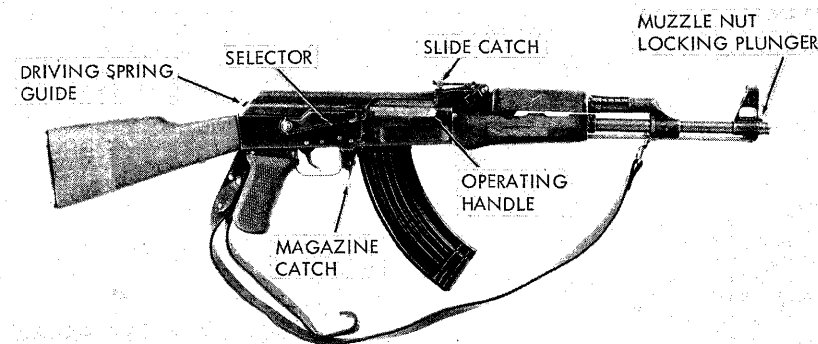

Figure 56. Typical AK-47 (Hungarian).
b. The Soviet designed Kalashnikov AK-47 assault rifle (fig 56), a gas-operated, selective fire, box magazine-fed weapon, was the major infantry arm for most Eurasian Communist countries. The Warsaw Pact Armies, however, have generally replaced the AK-47 with the similar, but improved, AKM assault rifle (sec III, subsec B). The AK-47 remains in wide use in Asia and is still used as a substitute standard weapon in most Warsaw Pact Armies. Large numbers of these weapons have also been passed to other
c. The AK-47 is produced in two different basic models—one with a conventional, fixed wooden butt stock (fig 56) and the other with a folding, metal shoulder stock (fig 58). There also are early and late production variations of the Soviet model. The earliest models have a stamped sheet metal receiver, without the magazine guide dimples of the later stamped receiver AKM (para 97), but with two prominent rivet heads (fig 59). Few parts
c. If necessary, press the selector (fig 56) down from the safe position; pull the operating handle fully to the rear and release it.
f. Set the rear sight for the desired range by pressing the slide catch (fig 56) and moving the sight bar along the leaf until the front edge of the bar is aligned with the line below the number that corresponds with the range in hundreds of meters. The first character on the sight leaf is a battlesight setting, used in combat for shooting at ranges up to 300 meters.
j. Remove the magazine by pressing the magazine catch (fig 56) toward the magazine; then swing the magazine forward and out of the receiver. Close the M64 bolt by pulling the operating handle slightly rearward and then releasing it.
(1) Clear the weapon (para 92k) but do not insert the magazine or set the selector on safe.
(2) Press the serrated end of the driving spring guide (fig 56) into the bolt cover and, while holding the guide in, lift off the bolt cover, rear end first. If the rifle is a Polish PMK-DGN, press down and unlock the driving-spring guide lock (fig 63) before pressing the guide in; or if a Yugoslav M64, press in the lock at the left rear of the receiver before pressing the guide in.